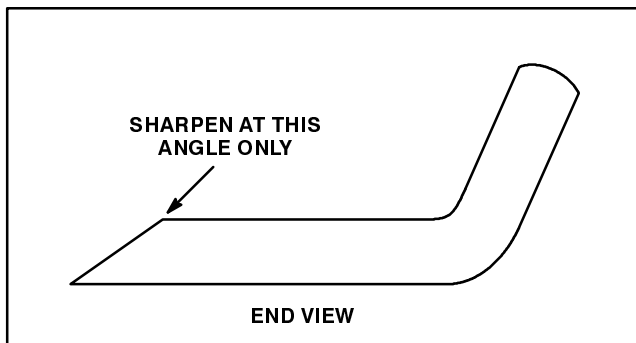

Figure 37
3. Inspect cutting edges of all blades. Sharpen the cutting edges if they are dull or nicked. Sharpen only the top of the cutting edge and maintain the original cutting angle to make sure of sharpness (Fig. 37). The blade will remain balanced if same amount of metal is removed from both cutting edges.